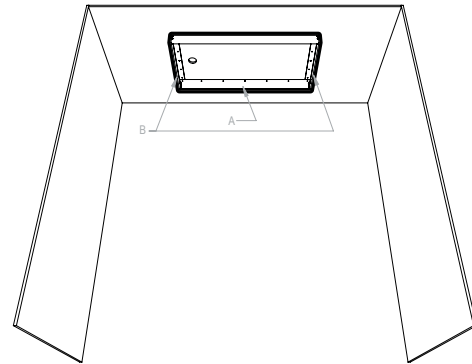

Figure 5B
- Installation via the side rail (Fig. 5B)
7. Secure the two adjacent sections to the ceiling (Fig. 5B) using No. 8 screws (not included), ensuring the sections are perpendicular. Use all the holes provided for this purpose. A square or laser level (not included) may be required.